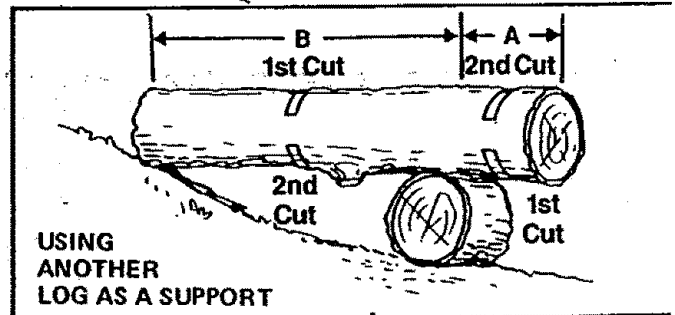

Figure 35
4. BUCKING — USING ANOTHER LOG AS A SUPPORT (Figure 35):